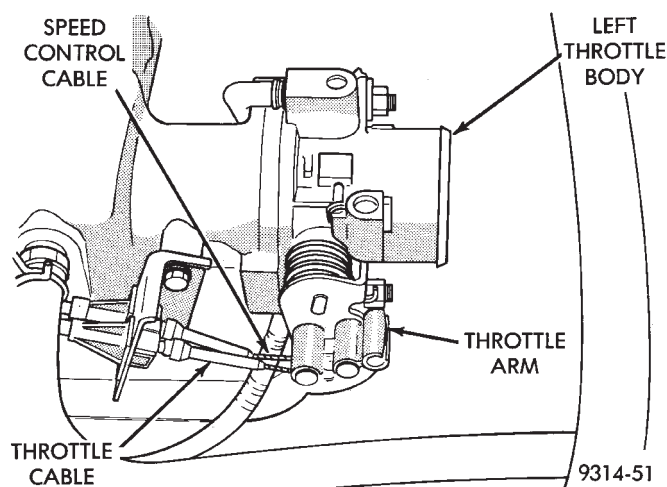

Fig. 27 Throttle Lever—3.5L Engine
- (1) Release fuel system pressure. Refer to Group 14, Fuel System Pressure Release Procedure.
- (2) Drain cooling system. Refer to Group 7, Cooling System for procedure.
- (3) Remove engine cover from top of intake manifold plenum.
- (4) Remove accelerator cable and speed control cable from throttle arm (Fig. 27).